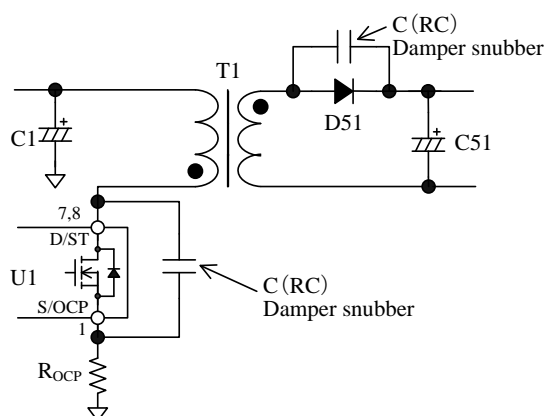

Figure 9-14. Damper Snubber
In addition, if a C (RC) damper snubber of Figure 9-14 is used, reduce the capacitor value of damper snubber.